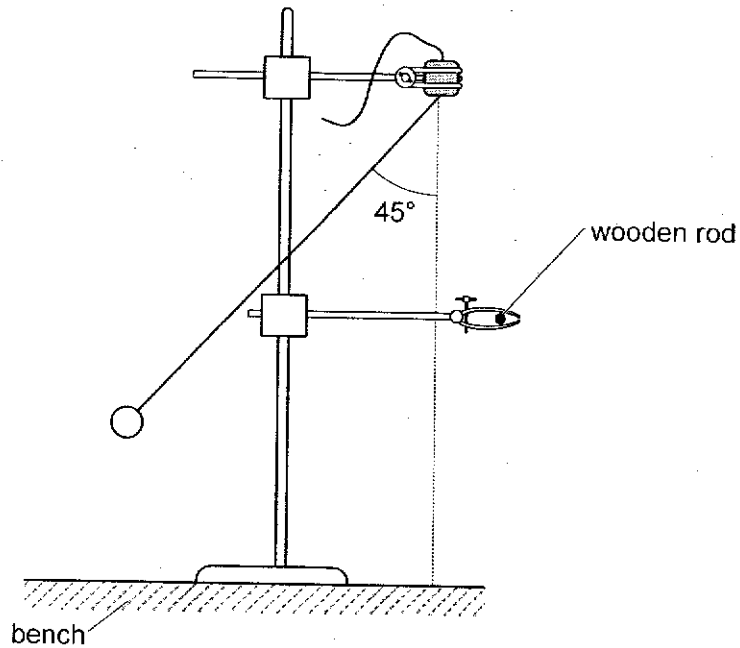

Fig. 1.3
- (c) (i) Pull the bob away from the wooden rod so that the angle between the string and the vertical is 45° , as shown in Fig. 1.3.